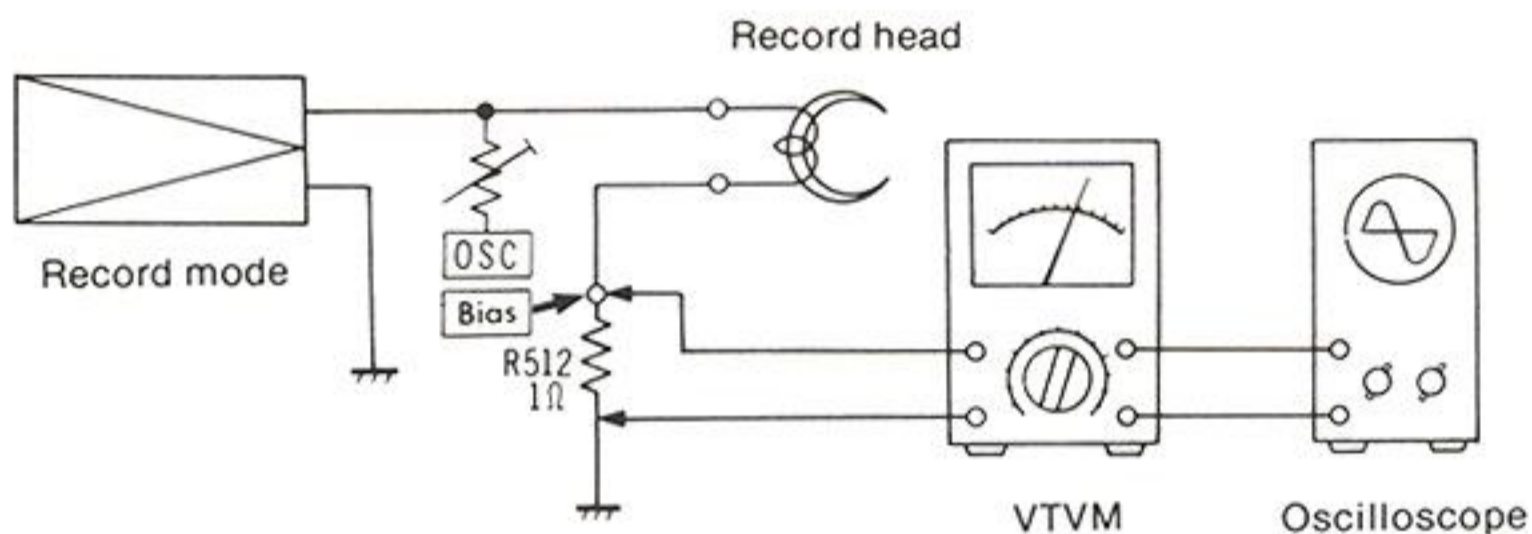
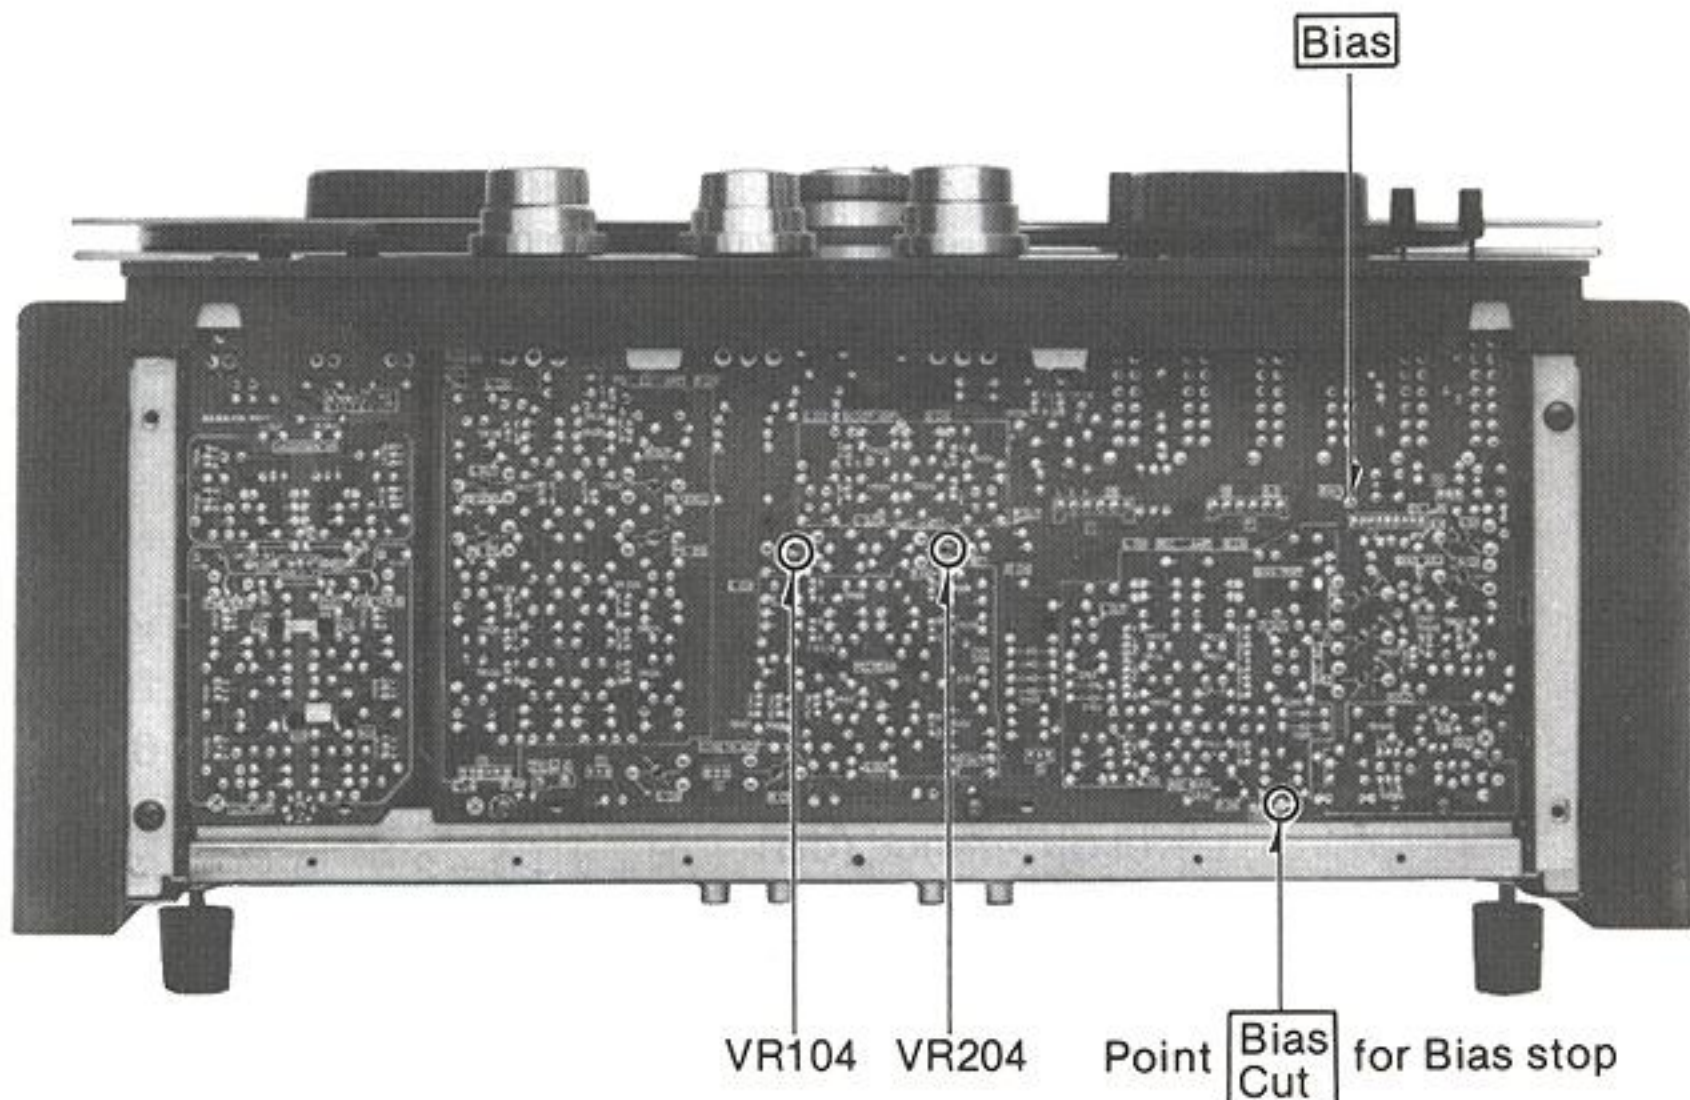

Fig. 49
Fig. 50
Bias current	<ol style="list-style-type: none"> 1. Test equipment connections are shown in fig. 49. 2. Set the bias selector to "2" position. 3. Set the tape speed to 38 cm/s. 4. Set the unit to the recording mode. 5. Set the recording mode selectors: L-CH to ON and R-CH to OFF. 6. Measure voltage across R512 (1Ω) (at point Bias) shown in fig. 50. 7. Next set the record mode selectors: R-CH to ON and L-CH to OFF. 8. Measure voltage at point Bias. 9. Bias current is calculated by formula below. $\text{Bias Current} = \frac{\text{Voltage read on VTVM}}{1 \Omega} \text{ (V)}$ <div style="border: 1px solid black; padding: 5px; margin: 10px 0;"> <p>Standard value at 38 cm/s tape speed and at "2" position of Bias Selector: around 3 mV</p> </div> <ol style="list-style-type: none"> 10. Next set bias selector to "1" position, and measure the bias current in the same way as described in steps 3 to 9 above. 11. Confirm that the bias current is 10% less than at the "2" position of the bias selector. 12. Next set bias selector to "2" position and confirm that bias current is 10% greater than at the "2" position of the bias selector. <p>In the same way, measure bias current at 9.5 cm/s tape speed. (Standard value at "2" position of bias selector is around 2.6 mV.)</p>
Recording current	<ol style="list-style-type: none"> 1. Test equipment connections are shown in fig. 49. 2. Stop the bias oscillation by unsoldering the connection point Bias Cut for bias current ON/OFF shown in figure 50. 3. Thread blank test tape QZZORA218EX. 4. Set the tape selector to "38" position. 5. Set the equalizer selector to "2" position. 6. Supply 1 kHz signal (−24 dB ± 3 dB) from AF oscillator, through ATT, to LINE-IN jacks, and adjust ATT until source monitor level at LINE-OUT jacks on VTVM becomes 0.55 V. 7. Set the recording mode selectors to "ON" (L-CH) and "OFF" (R-CH). 8. Place unit into recording modes.
1. Test equipment connections are shown in fig. 49.
Overall gain	<ol style="list-style-type: none"> 1. Test equipment connections are shown in fig. 36. 2. Thread blank test tape QZZORA218EX. 3. Supply 400Hz signal (-24 ± 3dB) from AF oscillator, through ATT, to LINE-IN jacks. 4. Adjust ATT so that the output level at LINE-OUT jacks on VTVM becomes 0.55V. 5. Place unit into recording mode. 6. Set the monitor selector to "Tape" position (both channels). 7. Then, measure the output level at LINE-OUT jacks when VTVM indicates 0.55V. <p>[Adjustment]</p> <ol style="list-style-type: none"> 1. If the measured value is not satisfied, adjust the overall gain adjustment VR, VR104 (L-CH) and VR204 (R-CH) shown in figure 50.